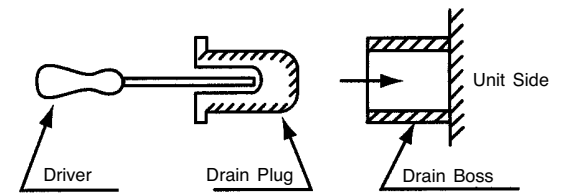

Fig. 3-3 Inserting Drain Plug
- Insert the drain plug into the right-side drain boss by using a driver as shown in Fig. 3-3.